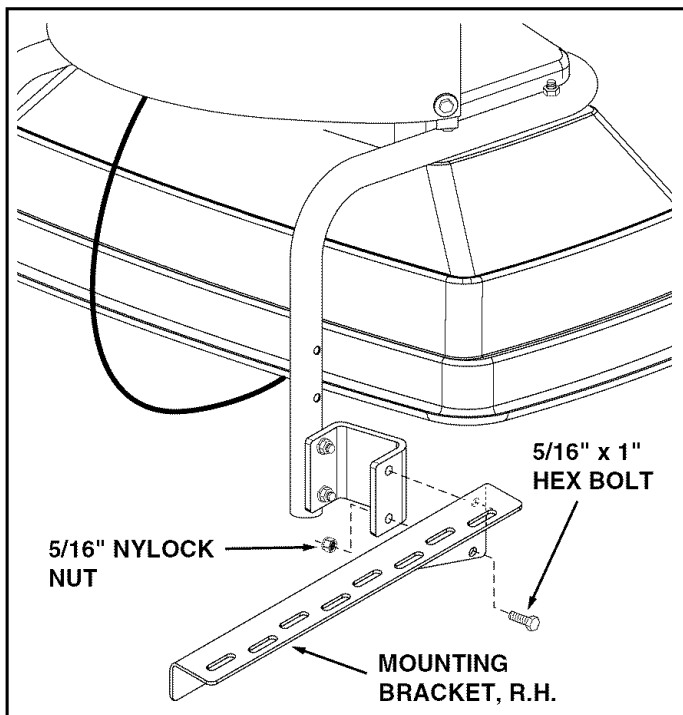

FIGURE 5
7. Attach the R.H. mounting bracket to the extension bracket shown in figure 5 using two 5/16" x 1" hex bolts and 5/16" nylock nuts. **Tighten.** Repeat on the other frame leg with the L.H. mounting bracket.